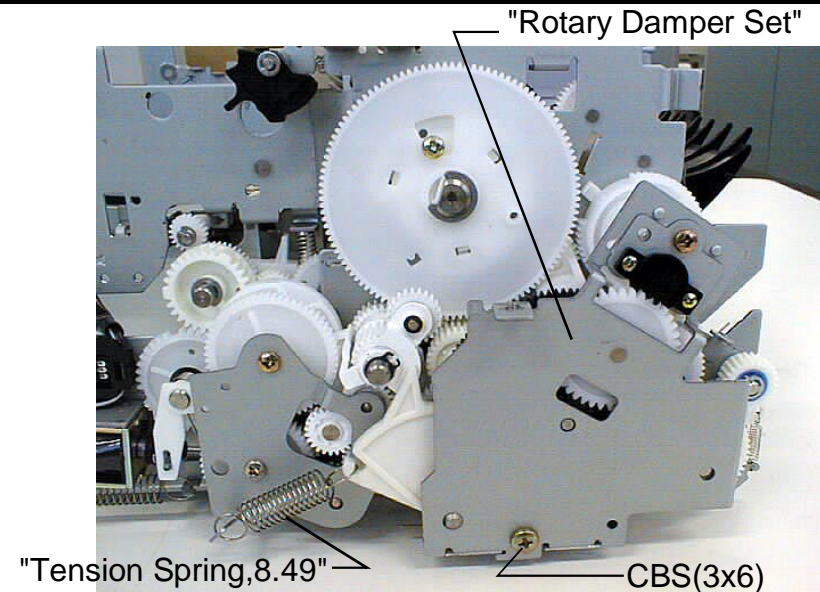

Figure 4-71. Rotary Damper Set Removal
3. Remove "Tension Spring, 8.49". (Refer to Figure4-71)